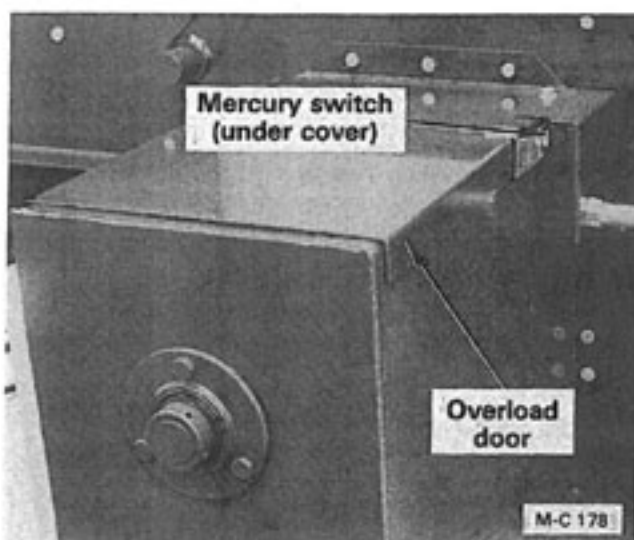

Figure 24
1. If the customer supplied grain take away system fails, the dryer will continue to discharge grain until the rear discharge overload door, Figure 24, is raised by the grain.